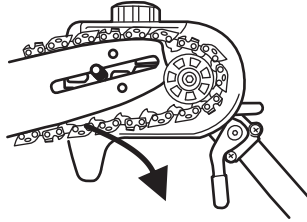

Fig. 22
7). Spread the saw chain (6) around the guide bar (7). Slide the chain into the groove around the guide bar. Pay attention to the cutting direction.
8). Align the saw chain around the drive sprocket (10) and place one corner of the guide bar into a gap of the sprocket. (See Fig. 22)